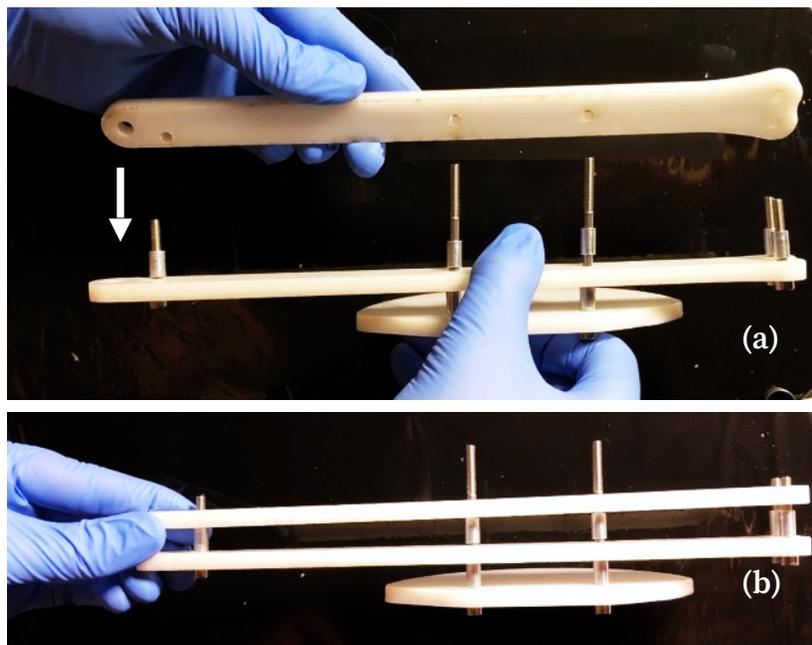

Figure 6
Step 7: Take lever arm B [Part 6] and slide it onto all five screws (Fig. 6). Be sure to match the holes on the lever arms.